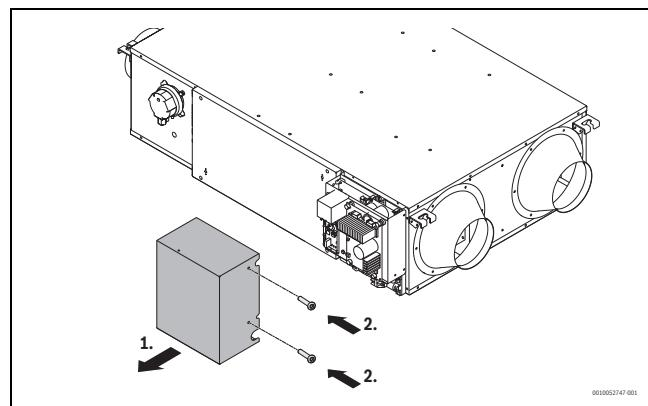

Fig. 11
- Remove the screws at the position shown in Fig. 11